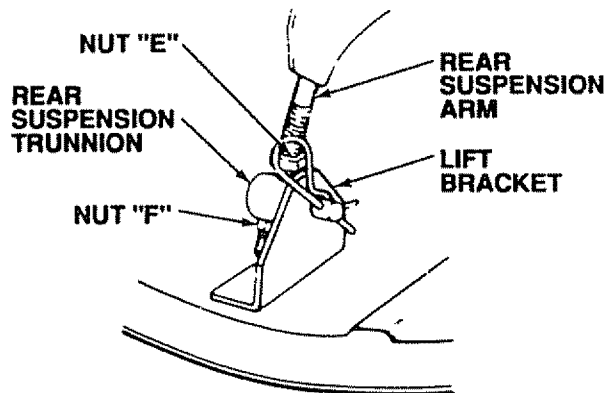

FIGURE 37
- b. To raise rear of mower, loosen nut "E" on both rear suspension arms. Screw both nuts "F" up EQUAL NUMBER OF TURNS (Fig. 37).
- d. To lower rear of mower, loosen nut "F" on both rear suspension arms an EQUAL NUMBER OF TURNS (Fig. 37).